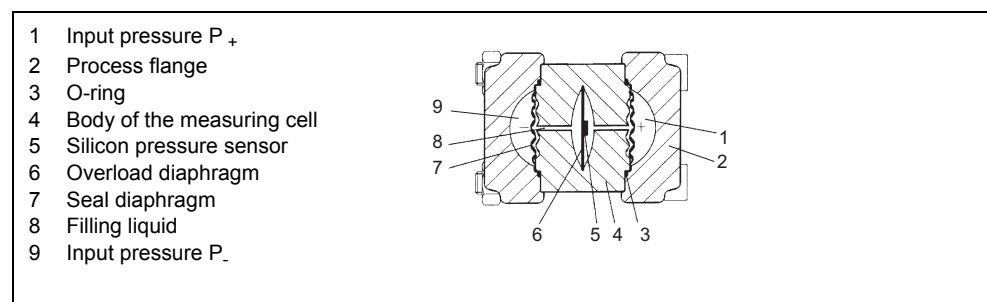

Figure 7 Measuring cell for differential pressure and flow, functional diagram
The differential pressure is transmitted via the seal diaphragms (7, Figure 7, pg. 18) and the filling liquid to the silicon pressure sensor (5). On exceeding the measuring limits, the overload diaphragm (6) flexes until one of the seal diaphragms (7) comes into contact with the body of the measuring cell (4) and protects the silicon pressure sensor (5) against overloading. The seal diaphragm is deflected by the resulting differential pressure. Four piezo-resistors in bridge circuit doped in the measuring diaphragm change their resistance as a result. The change in resistance causes a bridge output voltage proportional to the differential pressure.